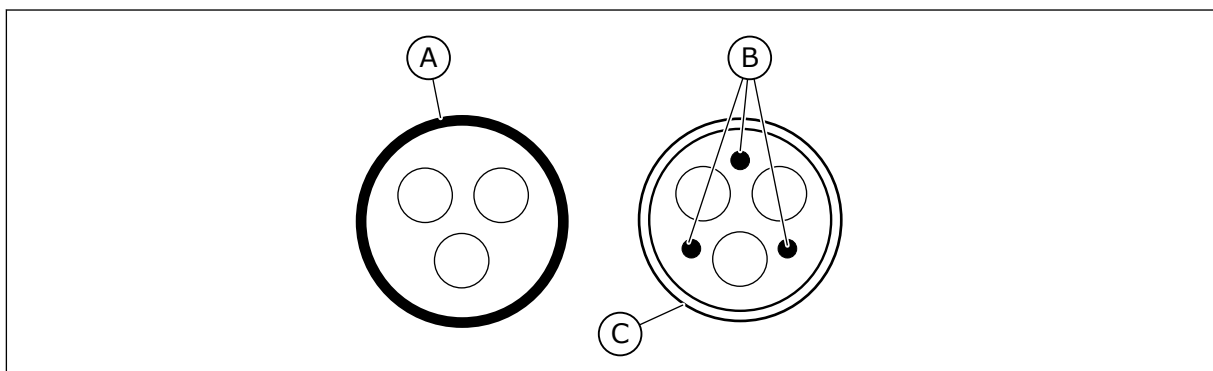

Fig. 18: Cables with PE conductors
2. A symmetrical power cable with a concentric protection wire. A cable for the specified mains voltage. We recommend an NKCABLES/MCMK cable. See *Fig. 18*.
3. A symmetrical power cable with a compact low-impedance shield. A cable for the specified mains voltage. We recommend an NKCABLES /MCCMK, SAB/ÖZCUY-J or equivalent cable. See *Fig. 18*. * = For the EMC levels C1 and C2, it is necessary to have a 360° grounding of the shield with cable glands in the motor end.